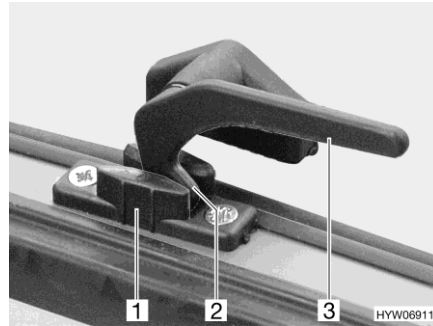

Fig. 45 Catch lever in "continuous ventilation" position
- "Continuous ventilation" (Fig. 45)
- Turn all catch levers (Fig. 45,3) a quarter turn towards the centre of the window.
- Return all catch levers to their initial position. The locking catch (Fig. 45,2) has to be moved into the recess of the window catch (Fig. 45,1).